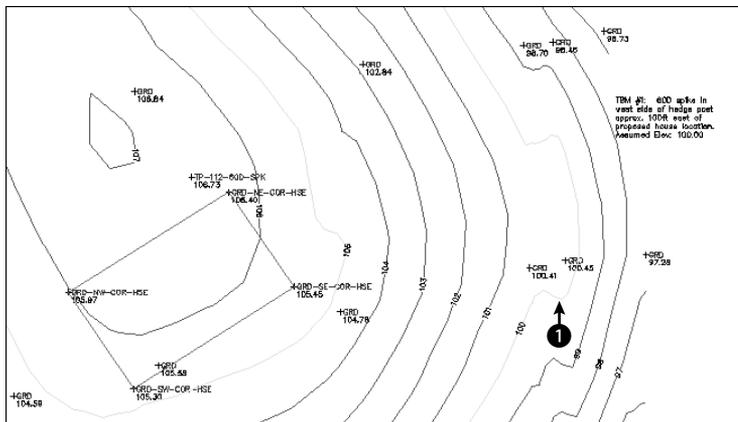

Figure 16-4: The topographical drawing's contours are polylines.
2. Save the file as ab16-02.dwg in your AutoCAD Bible folder. This is a topographical drawing, as shown in Figure 16-4. The contours are polylines.
3. Choose **Modify** ⇨ **Object** ⇨ **Polyline** to start the PEDIT command. Select the polyline at ❶ in Figure 16-4.
5. Type **e** ↵ to choose the **Edit vertex** option. At the **Enter a vertex editing option [Next/Previous/Break/Insert/Move/Regen/Straighten/Tangent/Width/eXit] <N>: prompt**, type **n** ↵ several times until the X mark is at ❶ in Figure 16-4. (There are many vertices—it's not important that you find the exact one.)